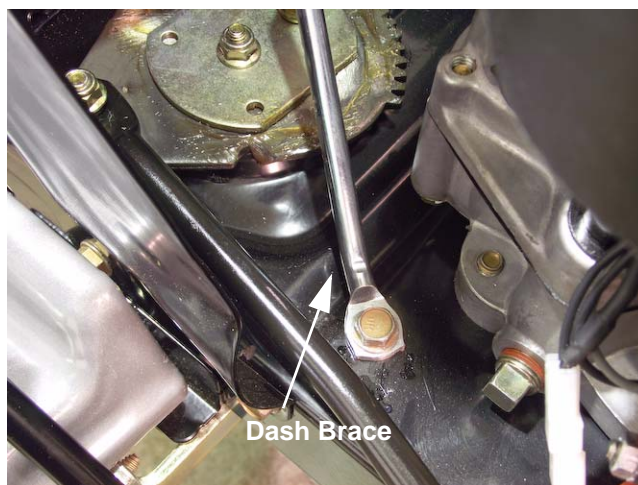

Figure 3.15
3. Optional: Remove the hex screw that fastens the lower portion of the dash brace to the frame and remove the brace. See Figure 3.15.